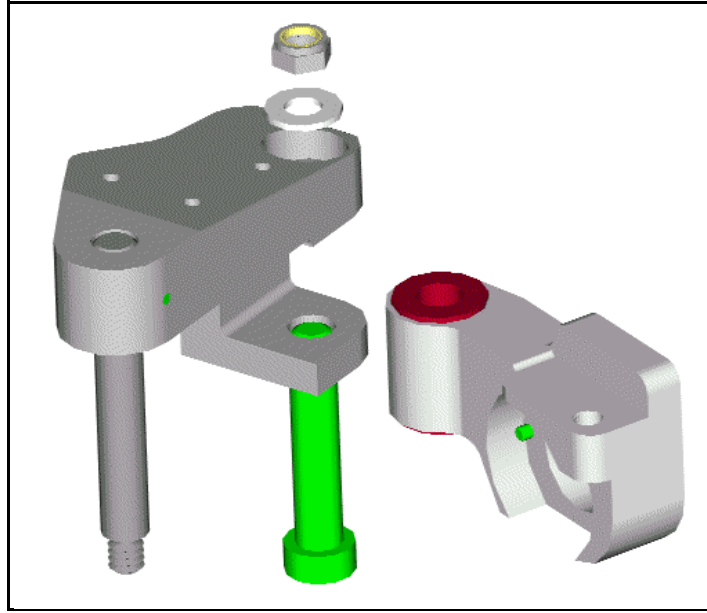

Figure 8.7- Step 5 shoulder assembly
5. Slide the Left Shoulder Yoke Mount Assembly (T1SHM006) into the machined slot on the Left Shoulder Support (T1SHM022). Insert the $\frac{1}{2}$ - 1.75" shoulder bolt {1/4} through the assembly from the bottom and tighten into the left shoulder support. Secure the shoulder bolt with a flat washer (3/8" ID, 7/8" OD) and a 3/8 - 16 nylock nut {9/16}. An exploded view of this assembly is shown in **Figure 8.7**.